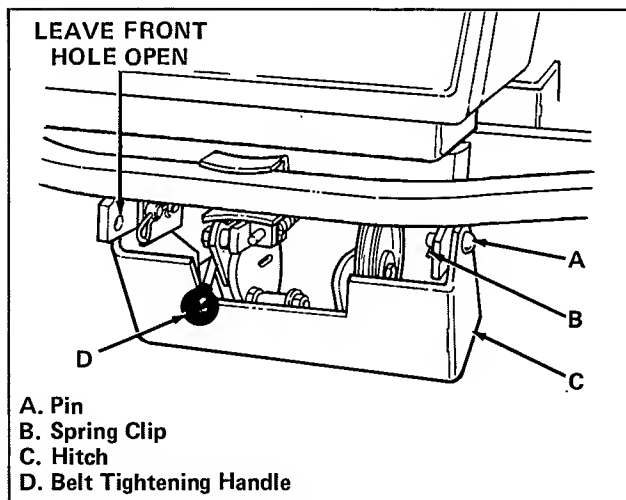
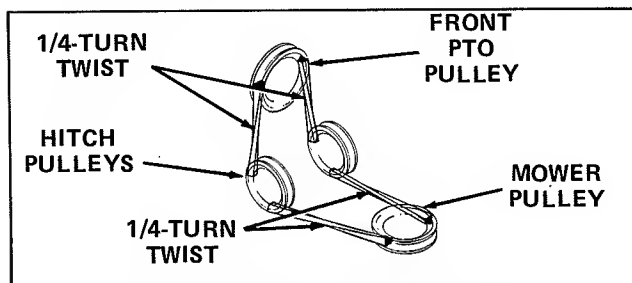

Figure 1. Install Hitch
Figure 7. Install Mower Drive Belt
A hitch (item C, figure 1) for mid-mounted attachments is required to install the mower on the tractor. This item can be purchased from your dealer.
1. Install hitch (item C, figure 1) for mid-mounted attachments on your tractor. Use four pins (item A) and spring clips (item B) to secure hitch to brackets under front axle.
11. Stop tractor engine and raise hood. Be sure belt tightening handle (item D, figure 1) is pulled forward. Thread mower drive belt over front PTO pulley, hitch idler pulleys and mower pulley as shown in figure 7. Then return belt tightening handle to rearward position to tighten drive belt.
3. Pull belt tightening handle (item D, figure 1) fully forward. Then remove mower drive belt from tractor PTO pulley, front hitch idler pulleys, and mower pulley.
10. If desired, remove spring clips (item B, figure 1) and pins (item A) to detach hitch for mid-mounted attachments from tractor.